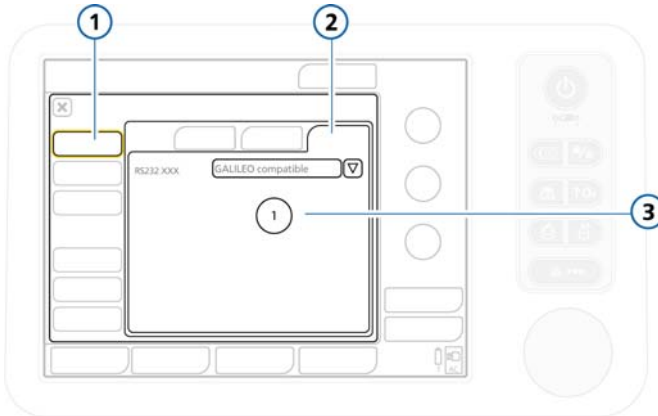

Figure I-5. Minimum loudness configuration
1. Open the General -> More window (Figure I-5).